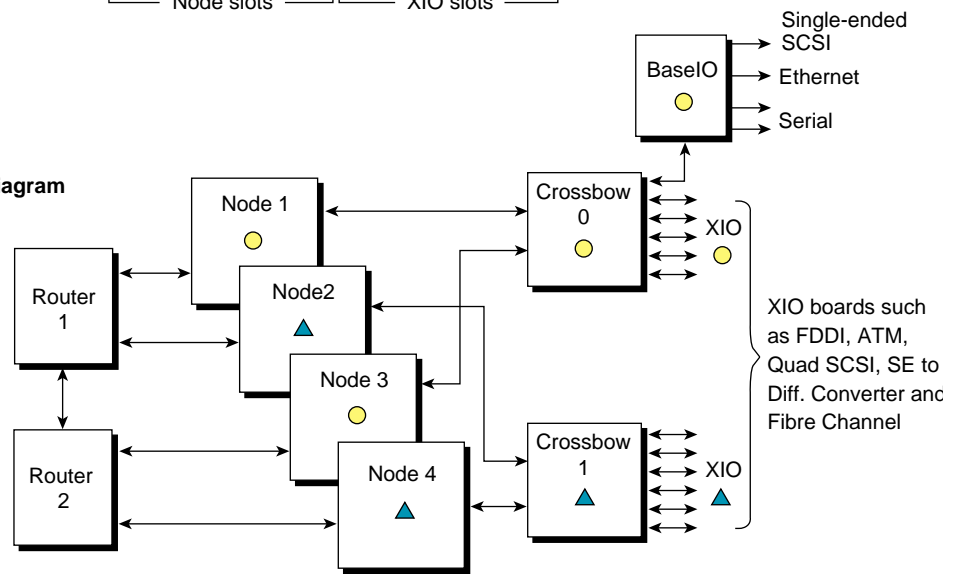

Figure 2-10 Node and XIO Board Functional Configurations
Node board slots are counted from right to left. Router board and XIO board slots are counted from left to right. Figure 2-10 shows a functional view of the back of the system.
- Have an XIO board installed in an unsupported slot (see Figure 2-10).